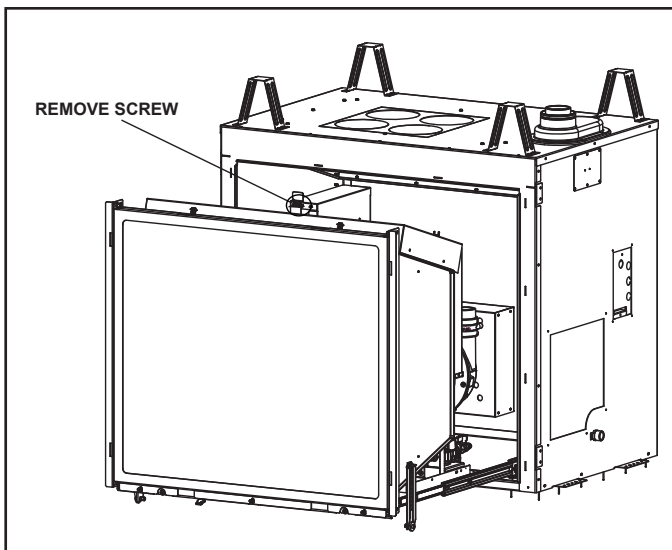

Figure 1.7. Filter Replacement
This appliance requires a filtered return air duct. A slot is located on the lower left of the appliance for a standard 12 x 24 x 1 filter. See Figure 1.7. The filter may be used in the slot provided on this appliance or elsewhere in the ducting system between the intake(s) and the appliance. If multiple air intake locations exist, each must have its own filter. Filters are not included with this appliance.
2. Remove the screw that secures the filter door to the appliance. See Figure 1.7.